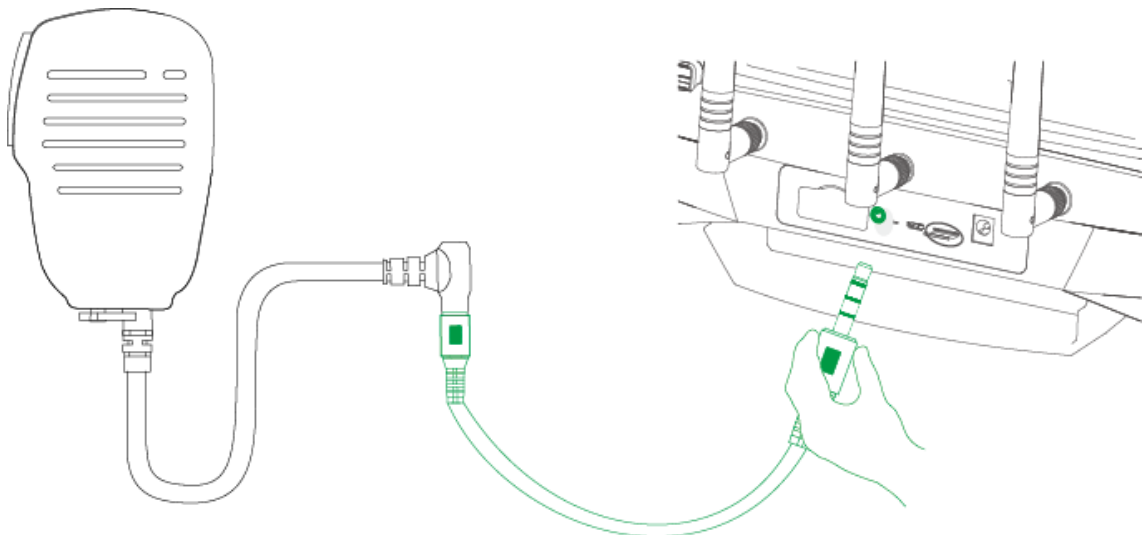

Figure 4-7
Step 2 Insert the other end of patch cord into audio input interface of remote control, as shown in Figure 4-7.